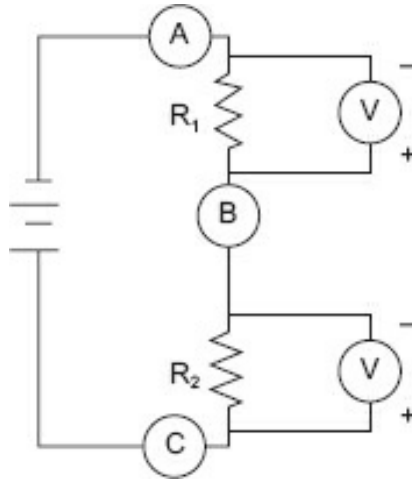

Figure R1-1.
1. For the circuit shown in Figure R1-1, identify the points you should use to measure voltage of:
2. In Figure R1-1, if you were to measure current, where would you insert your meter?